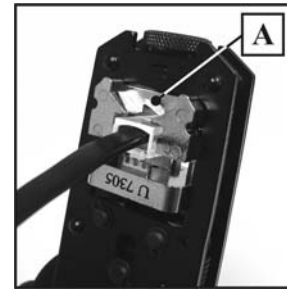

Fig.1.
After cable and microplug have been prepared, open handtool and insert microplug assembly into the opening of the die set (as shown on Fig.1.) until plugs' locking tab (A) snaps into place. Check if microplug is properly positioned in the die set and slowly close the tool completely until ratchet mechanism is released. Press locking tab (A) on the microplug and remove crimped connection from the die set.